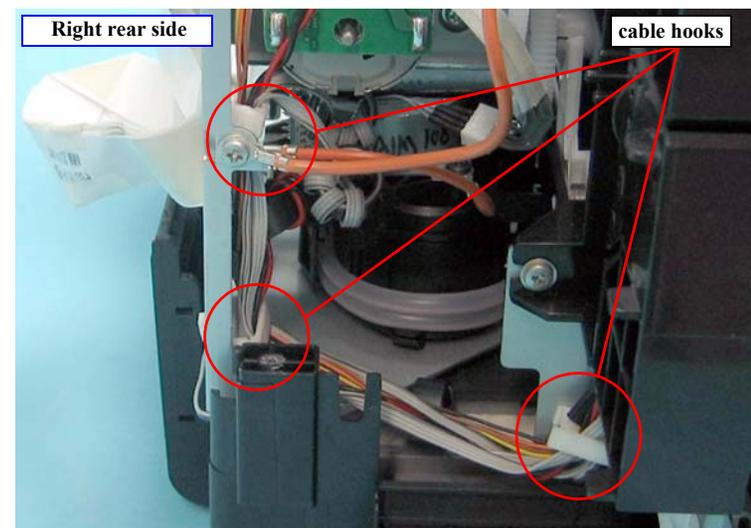

Figure 4-157. Releasing the PAPER, DETECTOR, ASSY. Cables
5. Release the cables of the PAPER, DETECTOR, ASSY., from the three cable hooks. See Figure 4-157.